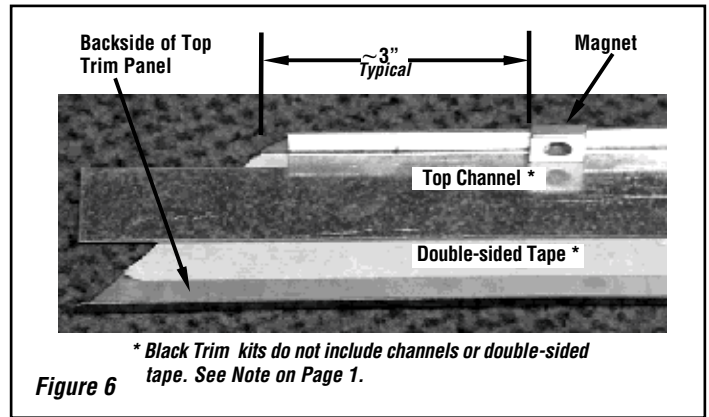

Figure 6
- **Brass and Stainless Trim Kits** - Peel off the backing on double-sided tape on the backside of the top trim panel. Press fit the top channel against the top trim panel as shown in **Figures 6 and 7**.
Step 7. Place 2 magnets on the backside of the top trim panel as shown in **Figure 6**.